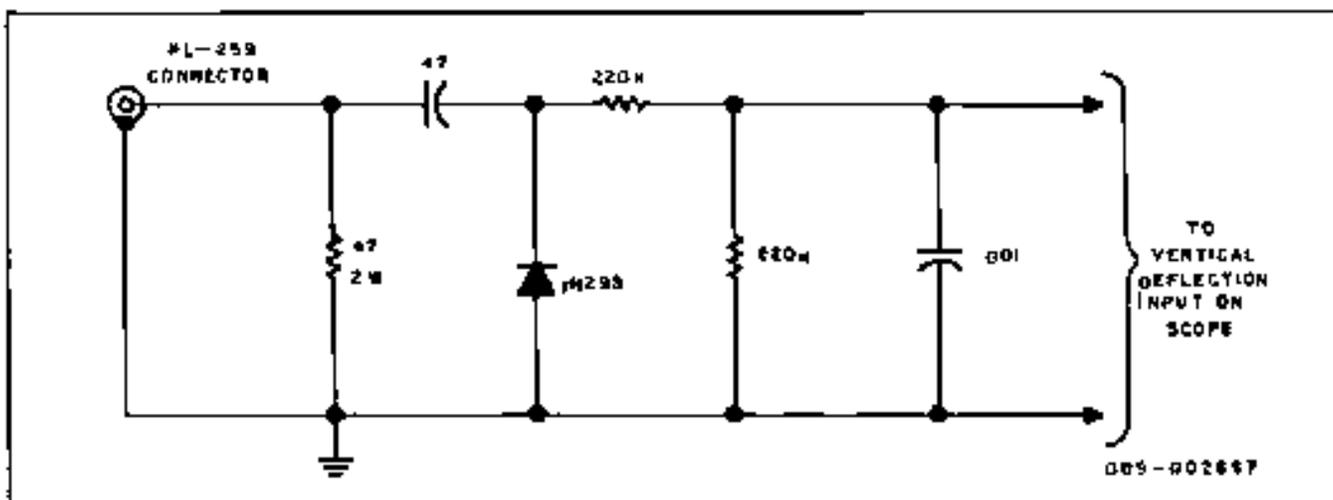

Figure 12 Diode Detector
4. Connect the diode detector unit to the RECEIVER outlet to provide a termination for the transverter mixer output. See figure 12.